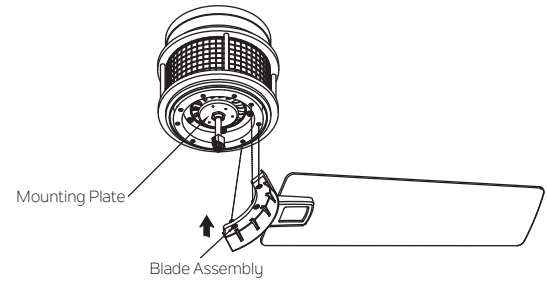

Fig. 14
Step 2. Fasten blade assembly to the holes located on the bottom of the flywheel. Tighten the two "pre-installed" motor screws in the blade bracket. Repeat steps for the remaining blades assemblies.(Fig. 14)